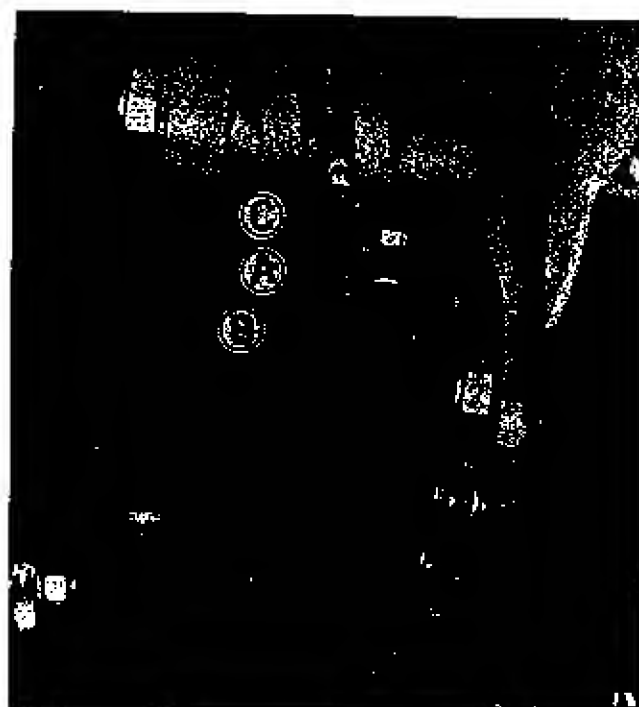

Figure 16. Power take off safety start switch.
2. See figure 16. Locate the safety switch (A) which is located under the tractor frame.
3. See figure 16. The safety switch can be moved up or down by turning the two nuts (A) clockwise or counter-clockwise or forward or back by sliding it in the slot in mounting bracket (B).
4. Adjust the safety switch so it is centered on the cam surface (C) and the end of the switch moves about 1/8" when the power take off control lever is moved from the disengaged to the engaged position.
5. Tighten the two nuts (A) against the mounting bracket (B).